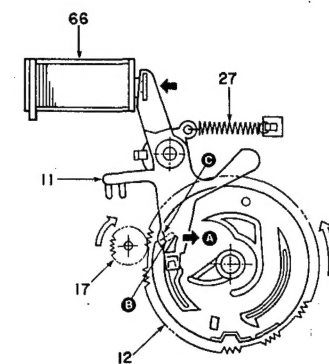

Fig. 2 (Rear side view)
1. STOP to PLAY/REC Operation (See Fig. 2 to Fig. 5)
- 1-2. By a signal from the microprocessor, the CAPSTAN MOTOR (65) rotates, and at the same time, the SOLENOID (66) turns ON.
- 1-3. PLAY ARM (11) swings in the direction of the arrow → **A**.
- 1-4. The pin **B** of PLAY ARM is released from the stopper section **C** of the CAM GEAR (12).
- 1-5. The CAM GEAR rotates slightly and engages with the gear of the FLYWHEEL (17).